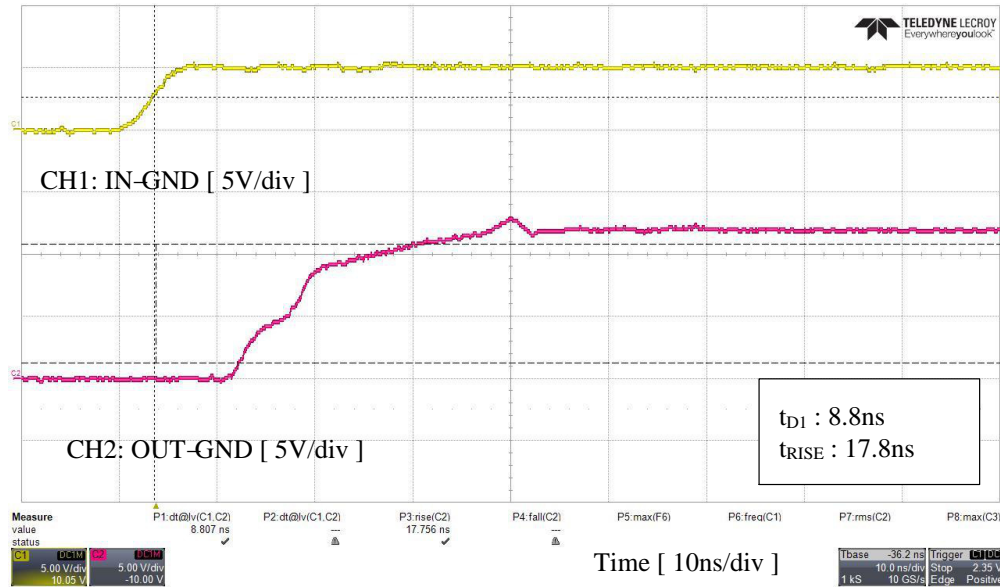

Figure 6. Turn On Waveforms
1. The measured waveforms of inputs and outputs are shown in Figures 6, 7, 8 and 9.